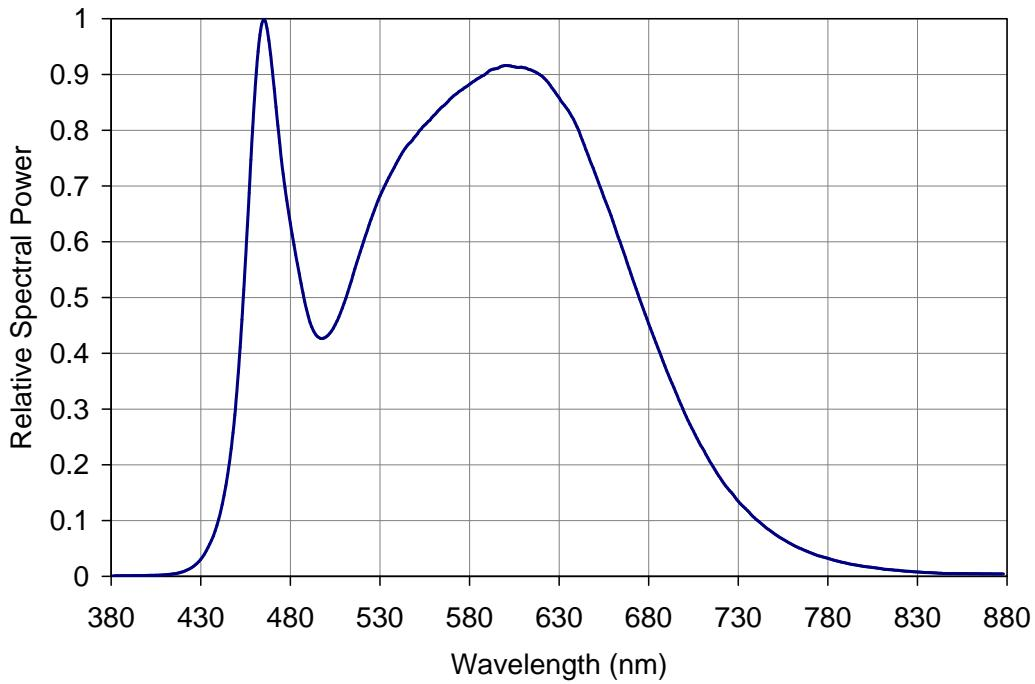

Figure 5: Typical relative spectral power vs. wavelength @ $T_c = 25^\circ\text{C}$.
4. Solder conditions per JEDEC 020D. See Reflow Soldering Profile Figure 5.